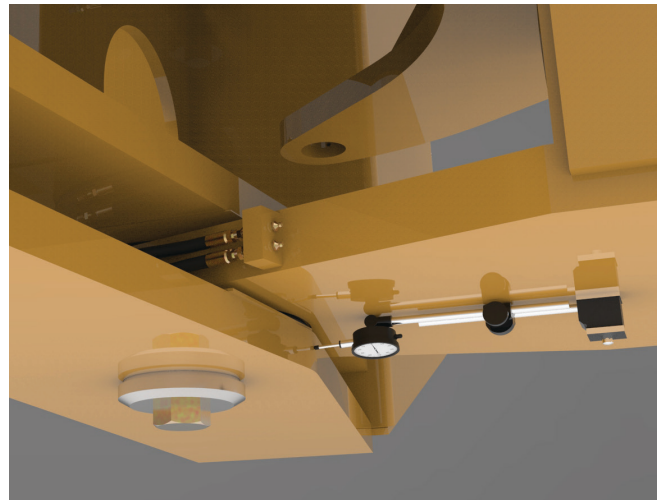

Figure 1 Horizontal Wear Check
1. With the machine parked on level ground, the carriage/bucket lowered, the power turned off, and lockout/tagout procedures employed, set up a dial indicator with a magnetic base on the lower hinge bar, as shown in Figure 1. Zero the indicator in this position.